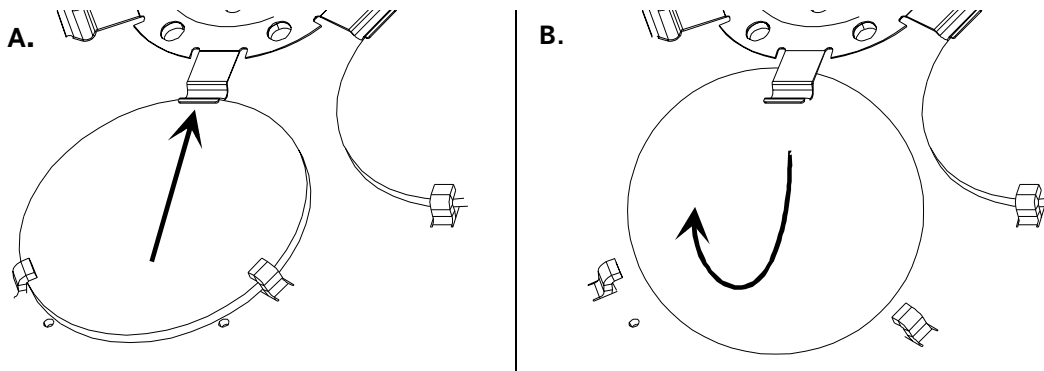

Figure B-6. Removing the Dichroic Glass
6. Gently push the dichroic glass towards the spindle in the center of the color wheel (A), lift the edge away from the wheel (B), and remove the glass. Refer to Figure B-6.